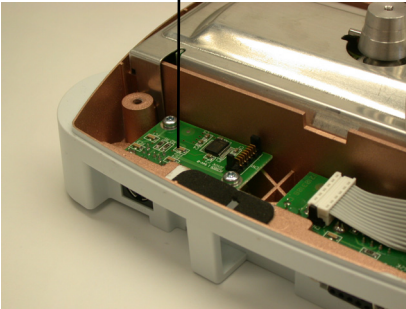

Figure 2C.
7. Mount the USB PCB over the corresponding stands, then secure with the 2 screws provided (See Figure 2C).